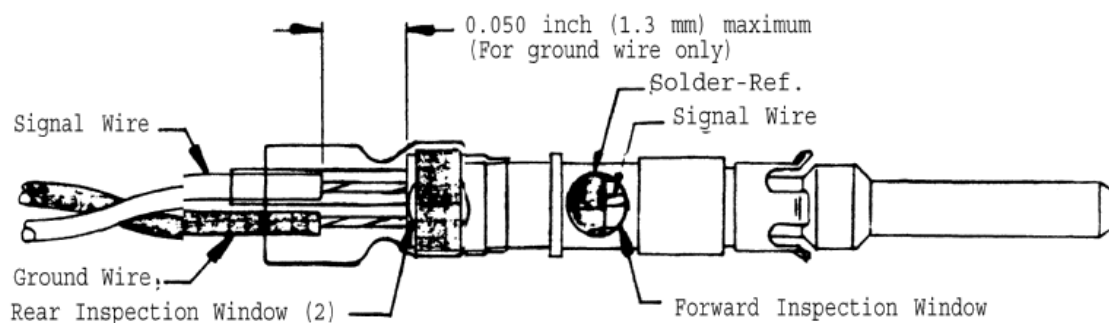
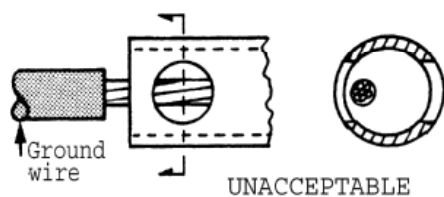
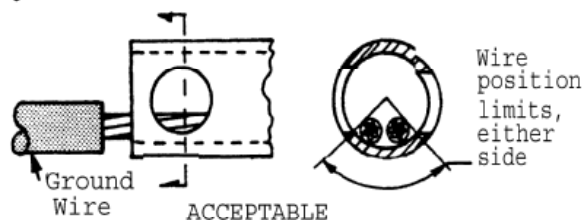

FIGURE 6
FIGURE 7A
FIGURE 7B
5.2.3.1 The signal wire must be visible through the forward inspection window (Figure 6) and must be under (inside) the solder preform.
5.2.3.2 Ground conductor should be positioned BETWEEN the two rear inspection windows (Figure 7B), and not directly IN either window (Figure 7A). It must not extend into the forward inspection windows. The trimmed insulation end should be within the dimensional limits of Figure 6.